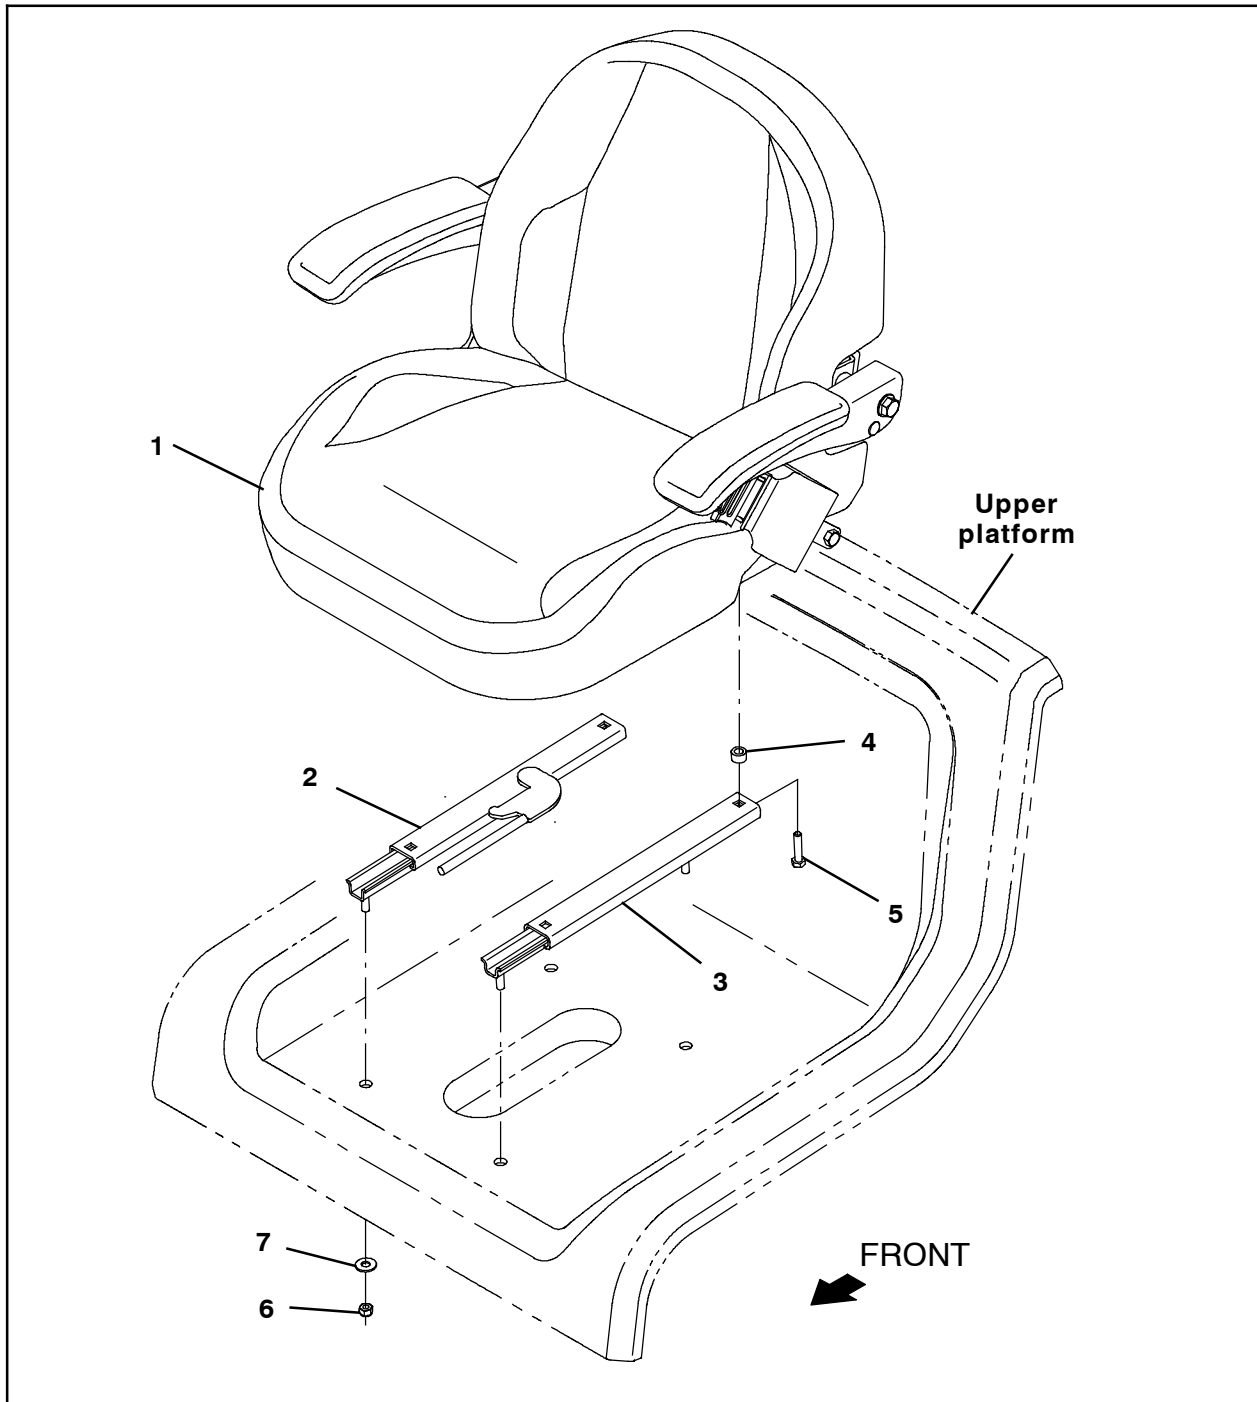

FIG. 2
4. Use two pan screws (5) and two spacers (4) to install the seat slide track with the latch (2) and the seat slide track (3) onto the deluxe operator seat (1). (Fig. 2)
5. Use four hex nuts (6) and four flat washers (7) to install the deluxe operator seat assembly assembled in the previous step onto the upper platform. (Fig. 2)